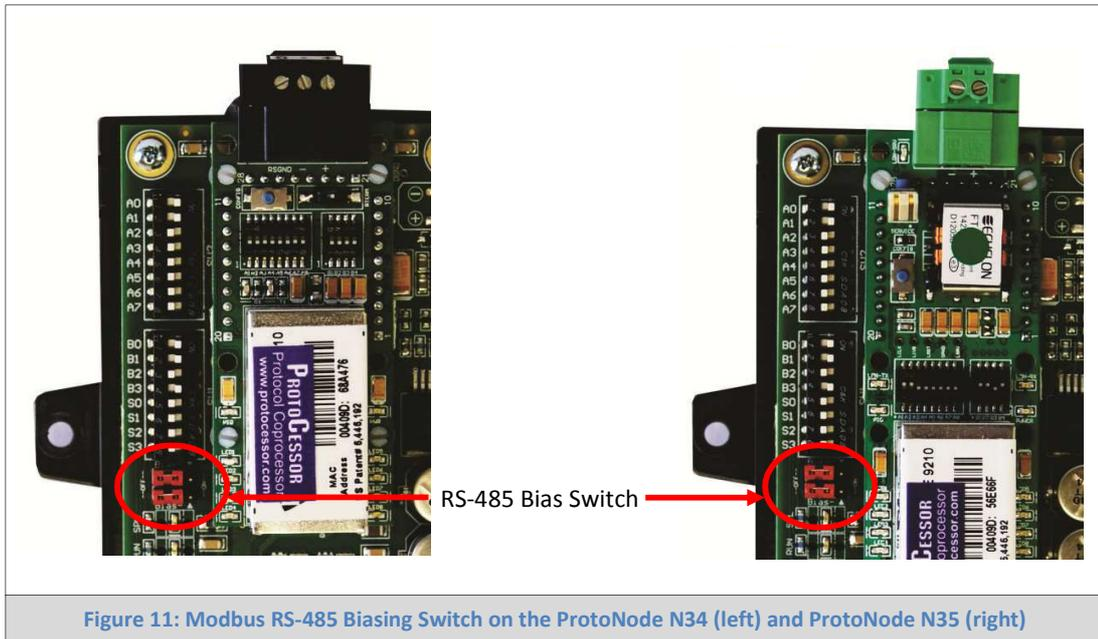

Figure 11: Modbus RS-485 Biasing Switch on the ProtoNode N34 (left) and ProtoNode N35 (right)
- The OFF position is when the 2 RED biasing jumpers straddle the 4 pins closest to the outside of the board of the ProtoNode. See Figure 11.